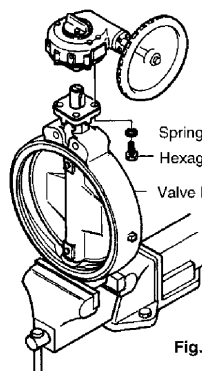

Fig. 31
- 1 Prior to removal of the liner all actuators or gearboxes should be removed (Fig.31)
- 2 Making sure that the valve is securely held in a vice or fixture. (Fig.31)